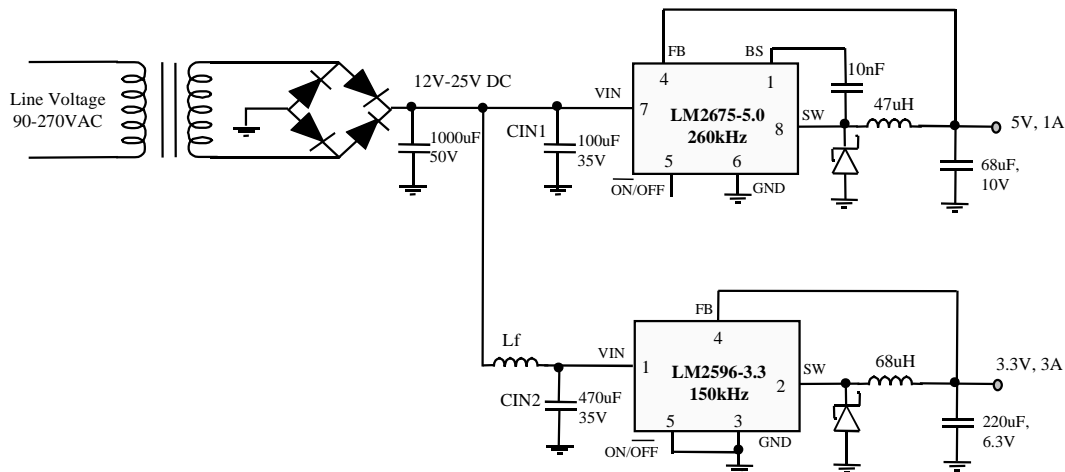
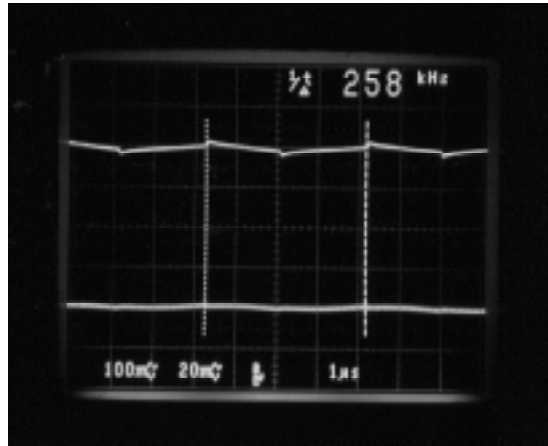

Figure 9: Adding the filter inductor, L_f at the front end of the converter improves the ripple rejection at higher frequencies
Figure 10: Disturbances on the input voltage being fed to LM2596, caused by LM2675, are filtered by the extra inductor
Adding an inductor in the front end of each regulator can filter disturbances on the input power line, as shown in *Figure 9*. The inductor forms an LC filter with the regulator's input capacitor. As an example, if we wish to reject the 260kHz disturbance from the input to LM2596 by a factor of 100 (so that the 260kHz ripple seen on its output is minimized), then:
Using Equation (2), C_{in2} and L_f can be calculated for the converter in *Figure 9*. *Figure 10* shows the reduction in 260 kHz disturbance on the input power line with the addition of the inductor. The output ripple voltage of the LM2596, frequency spectrum, switch voltage waveforms, and the transient response, are all improved by adding the filter inductance, as shown in *Figures 11, 12, 13, and 14*.